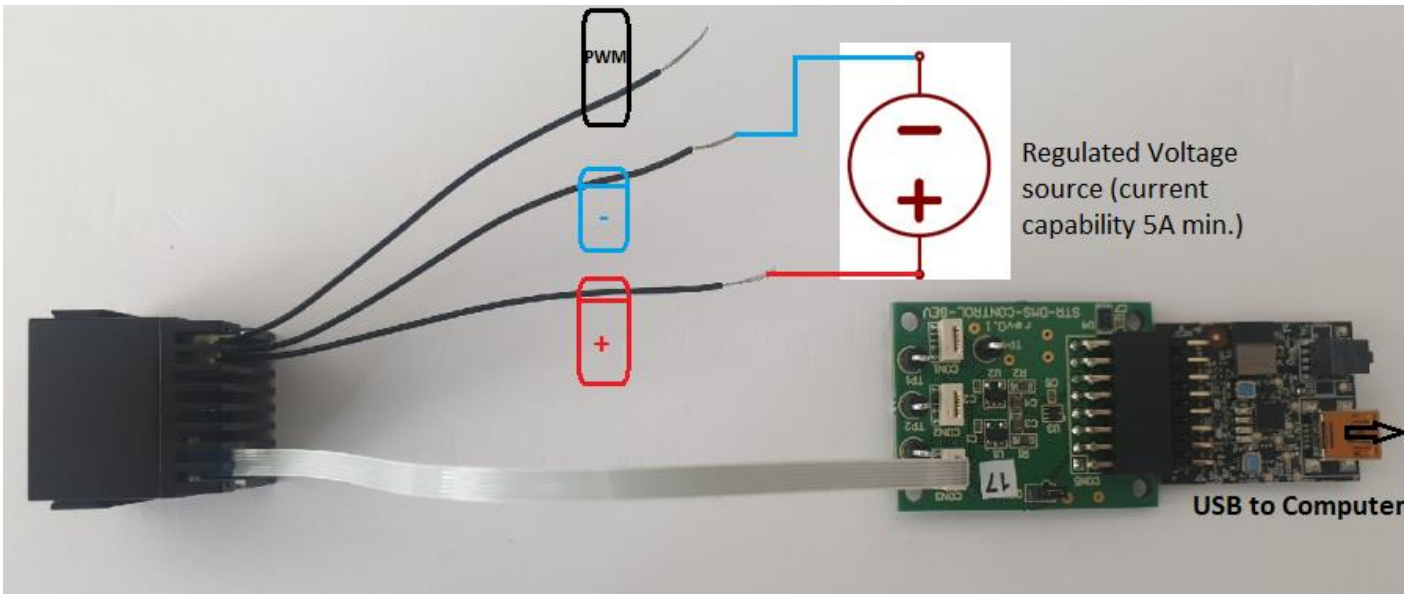

Fig. 5: Connection of the external power supply
3. Make sure you have available Regulated Constant Voltage Power supply with current capability up to 5A. Connect the external power supply and polarity per Fig.5 and set voltage to 13V (current limitation 5A min). Turn the power supply ON. With PWM generated by Strata interface, leave PWM cable from 3-pin connector open (unconnected). You can connect and simultaneously control up to three STR-DMS-NCV7694-GEVB over FPC cable to single STR-DMS-CONTROL-GEVB board. Supply wires should be connected together to Regulated Voltage Source (all minus poles and all plus poles).